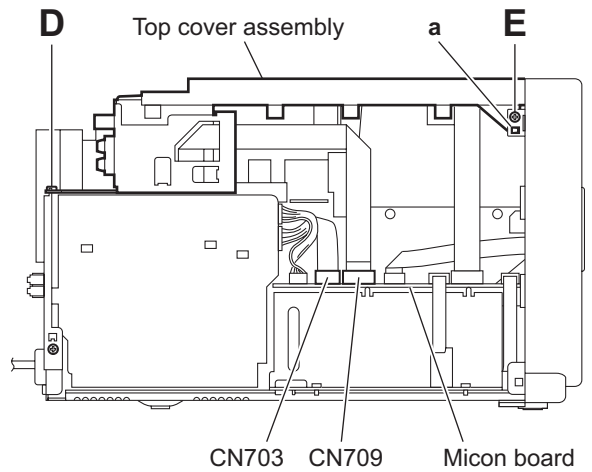

Fig.4
3.1.3 Removing the top cover assembly (See Figs.4 and 5)
- From the left side of the main body, disconnect the card wires from the connectors (CN703, CN709) on the micon board. (See Fig.4.)
- Remove the screw **D** attaching the top cover assembly. (See Fig.4.)
- From the both sides of the main body, remove the two screws **E** and screw **F** attaching the top cover assembly. (See Figs.4 and 5.)
- Release the joints **a** and remove the top cover assembly. (See Figs.4 and 5.)